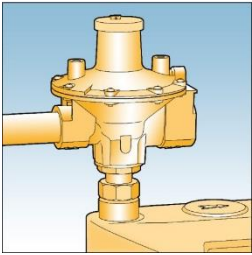

Fig. 2
4. Mount regulator to meter inlet and connect pipework to regulator inlet. See Fig. 2.